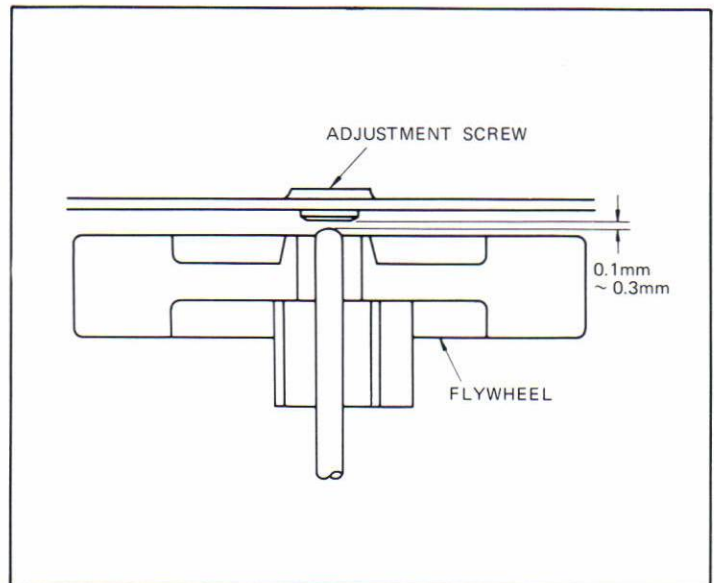

Figure 4
■ FLYWHEEL THRUST CLEARANCE ADJUSTMENT (Refer to Figure 4)